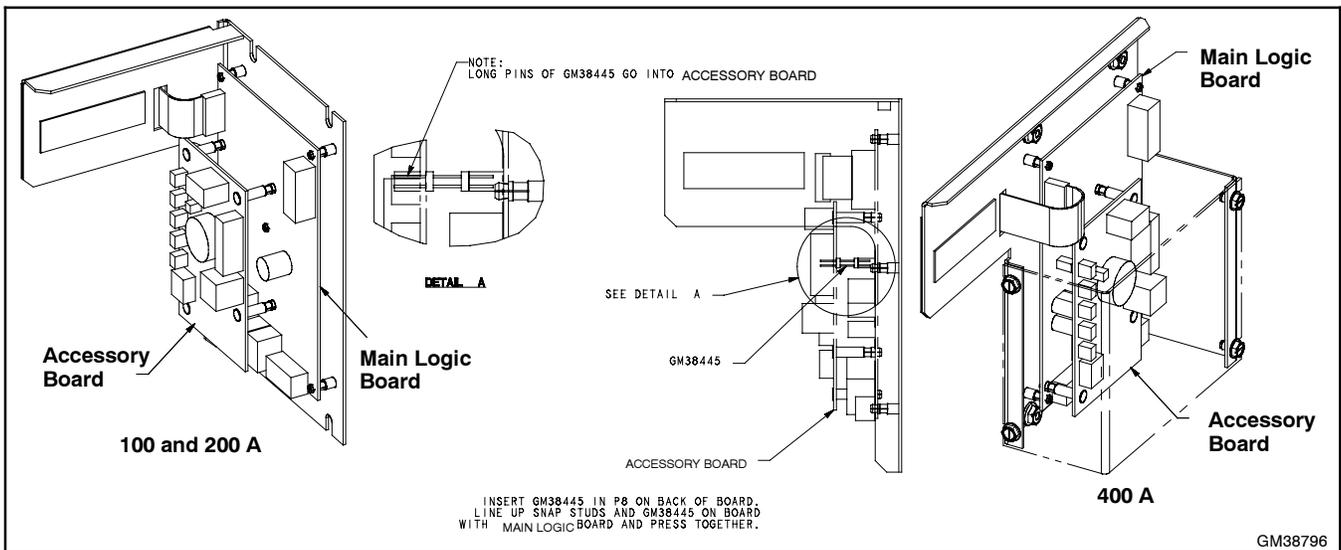

Figure 7-1 Controller Assembly with Accessory Board
6. 400 amp models only: Remove four screws and remove the guard from the controller assembly. See Figure 7-1.
7. Models equipped with the optional accessory board (see Figure 7-1):
12. Reinstall the accessory board, if equipped. See Figure 7-1.